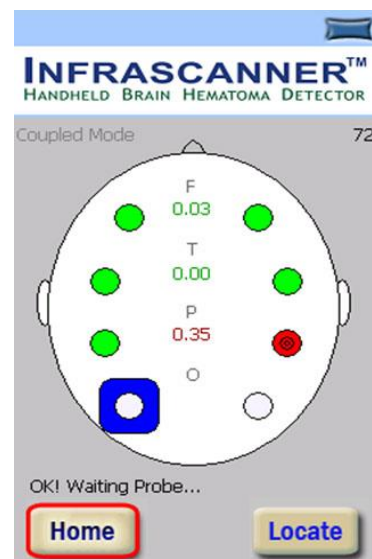
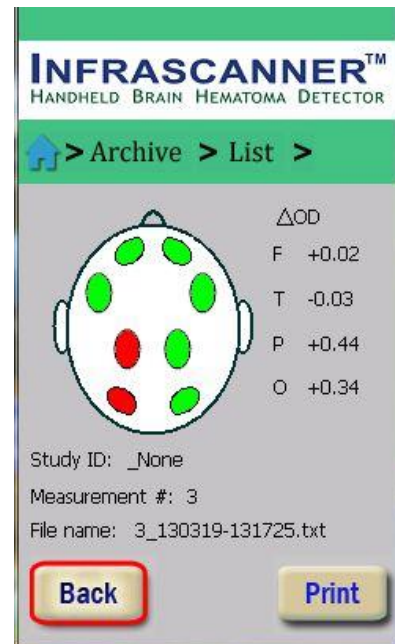

Figure 3-10: Measurement Screen with results
Figure 3-14: Archived Measurement
10. The results of measurements (Figure 3-10) will not be displayed until the user completes the occipital measurements (or if they are skipped).
4. The next screen (Archived Measurement screen, Figure 3-14 is the same as the Measurement Screen (Figure 3-10) shown at the end of a measurement.